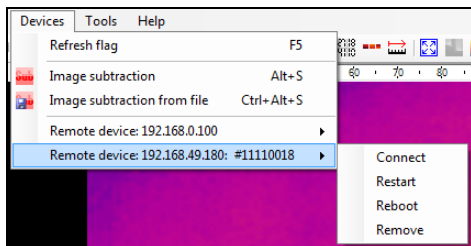

Figure 41: Remote device
1. Connect the NetBox WL with a VGA monitor and an USB keyboard, put in the USB recovery stick to a free port and switch on the NetBox. If the start display (Fig. 41) is indicated confirm with the **ESC button** for **at least 2 seconds**.